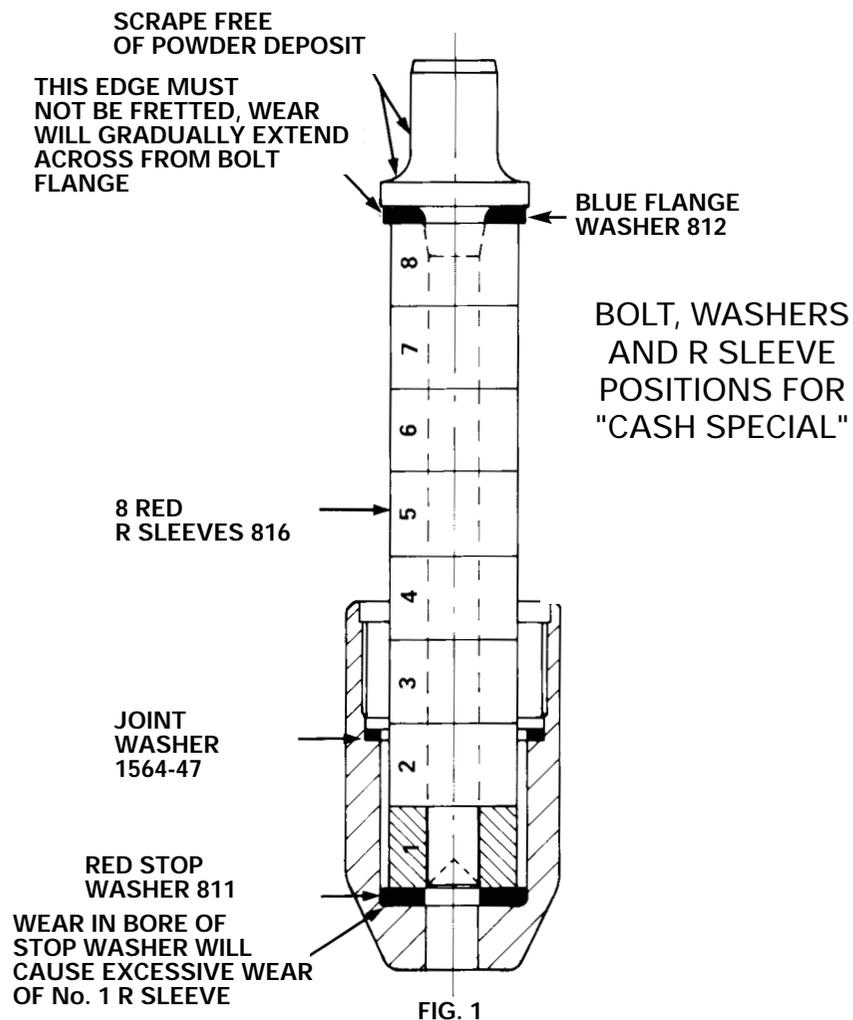
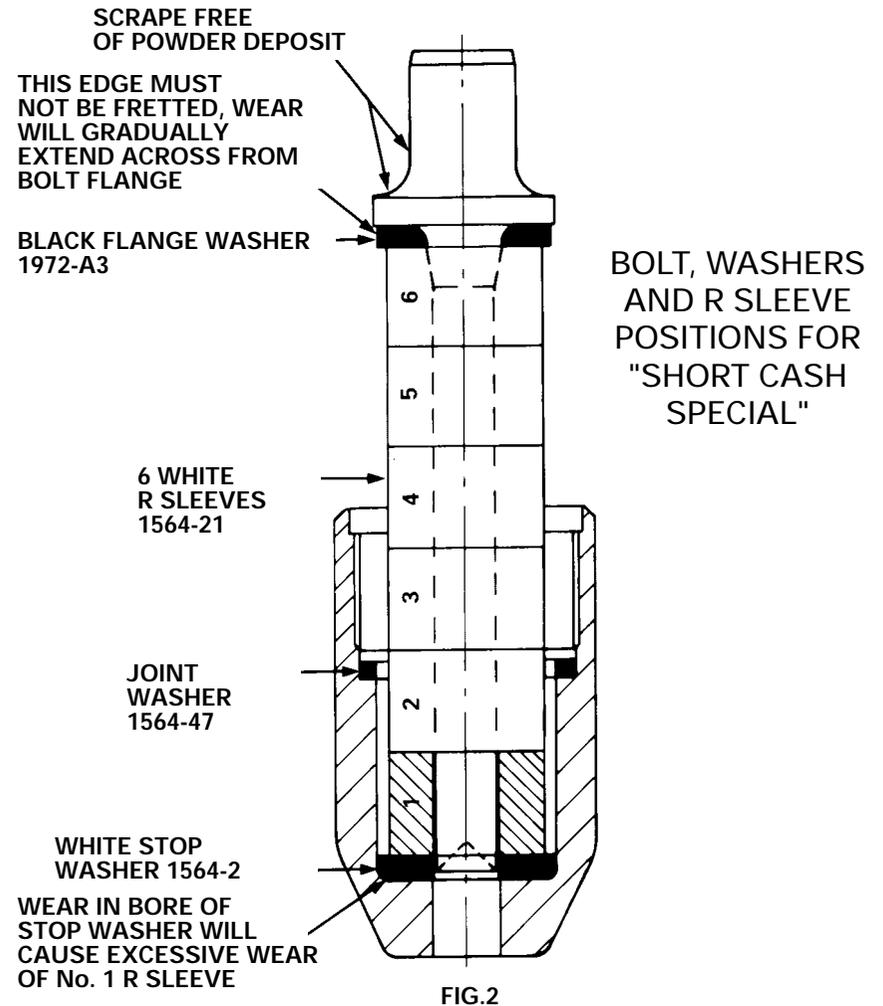

FIG. 1
FIG. 2
8. When re-assembling it is ESSENTIAL that Flange Washer, Recuperator Sleeves and Stop Washer are assembled in their correct positions, exactly as in Fig. 1 OR Fig. 2 for 'Short' model.